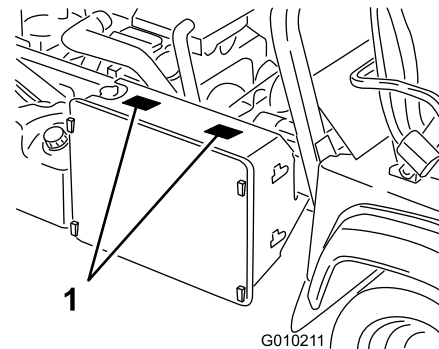

Figure 14
2. Affix the "No Step" decals to top of radiator, as shown in Figure 14.